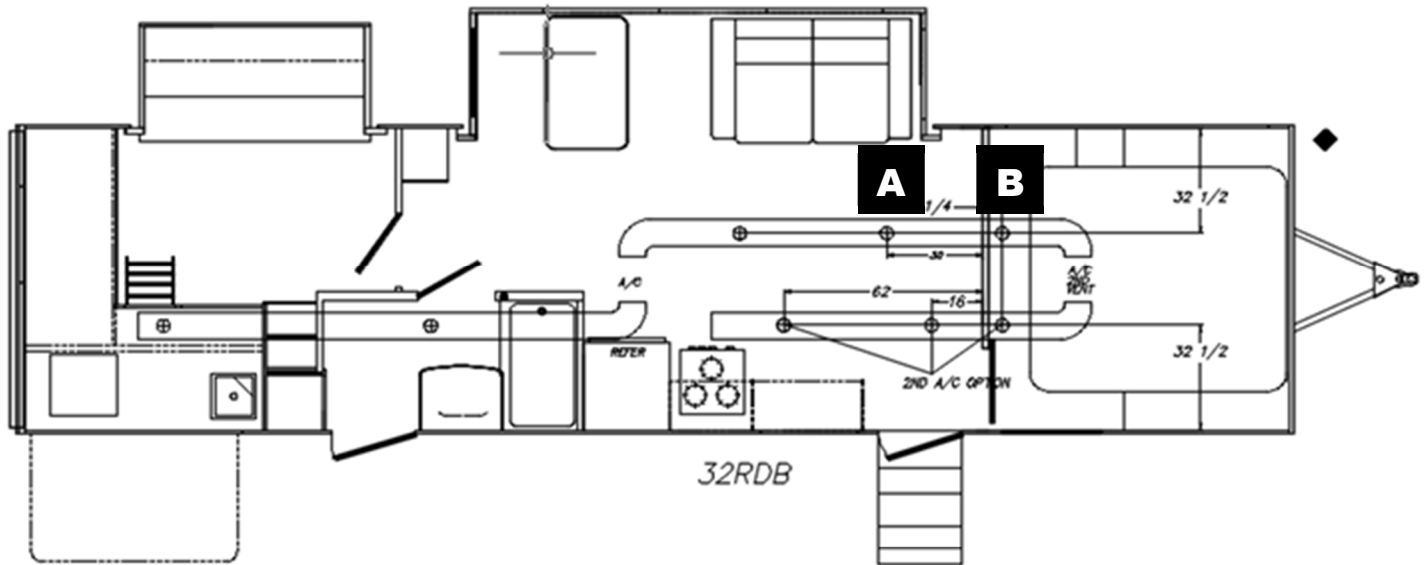

Fig. 1
The remedy is to inspect and determine how many vents are needed according to the Figure 1, locate proper A/C vent locations, drill, and install the missing A/C ceiling vents.
Inspect the existing ceiling vents and compare to Figure 1. There should be a minimum of 5 A/C vents: one in the bunk room, one in the bathroom, two in the main living area, and one in the bedroom. The forward living room vent (A) and bedroom vent (B) may or may not be installed, inspection is necessary. The second A/C option is also included on Figure 1 and indicates where the holes can be drilled. The 2nd A/C option is not standard on every unit, to verify this option use the “**Search Unit Info**” function on Key Express.
Using measurements from Figure 1 and a 5" hole saw, add vents as needed, drilling into ceiling panel and A/C duct, being careful that you do not drill into the top side of the A/C duct.
Install KRV#101886 Grill – 5" – Ducted Ceiling – AC in the locations indicated on Figure 1 using HVAC tape to seal the vents to the ducting.
Locate (measure) for the missing A/C ceiling vents, Figure 1. The vents in the above figure may or may not be installed, inspection is necessary.